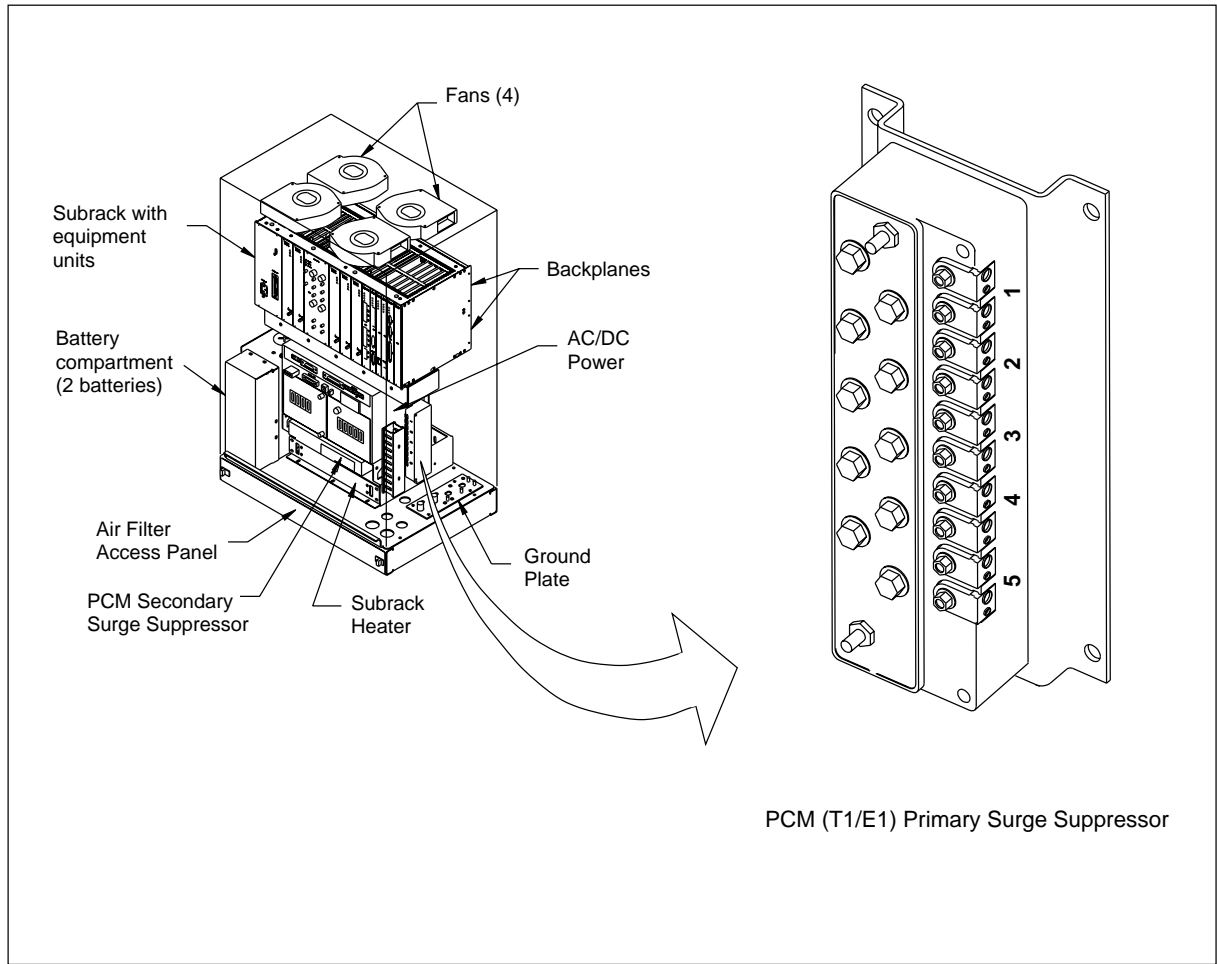

Figure 4-15. Cabinet Surge Suppressor
7. Route the T1(E1) cable through conduit into the base of the cabinet. Connect cable to the T1(E1) Primary Surge Suppressor located on the right-hand side of the cabinet. See Figure 4-15 on page 4-32. Note that the connector block is grounded to the I/O plate at the factory.